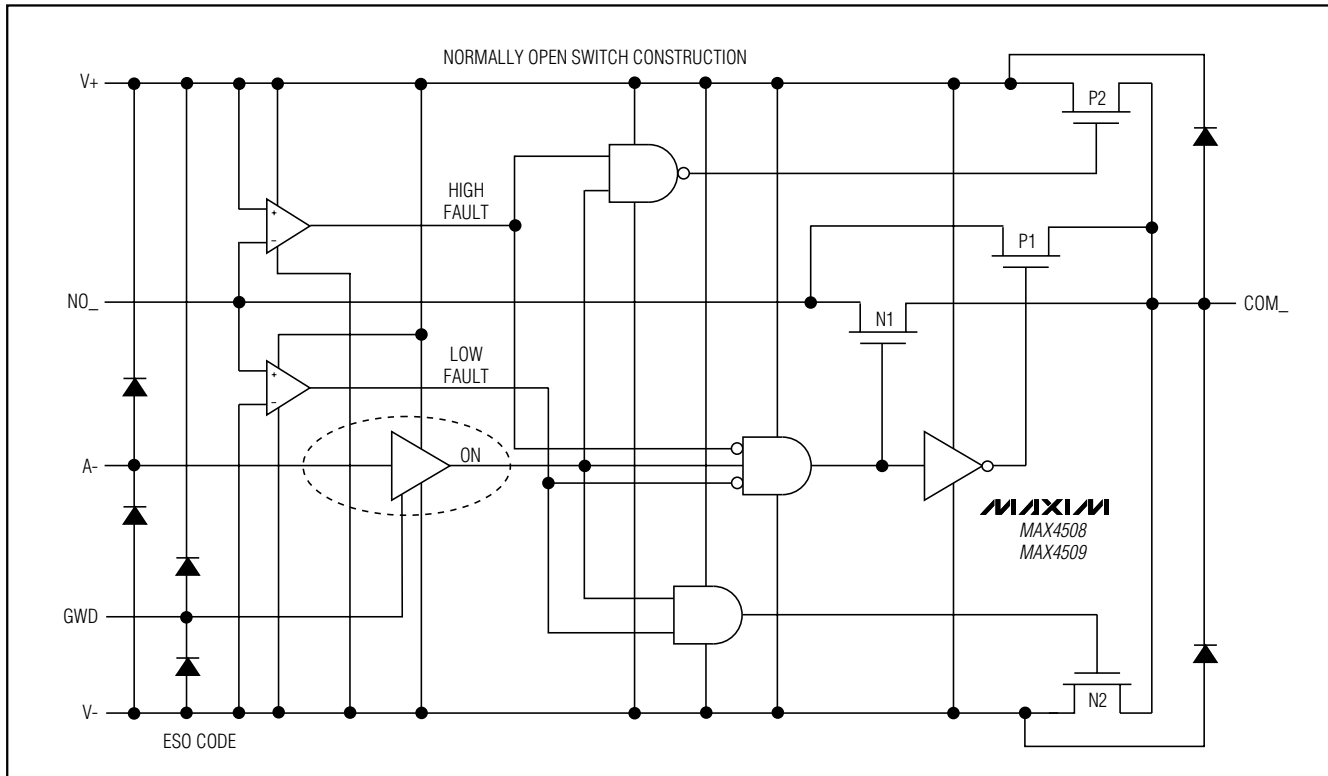

Figure 1. Functional Diagram
Figure 1 shows the internal construction, with the analog signal paths shown in bold. A single normally open (NO) switch is shown. The analog switch is formed by the parallel combination of N-channel FET N1 and P-channel FET P1, which are driven on and off simultaneously, according to the input fault condition and the logic level state.
Two comparators continuously compare the voltage on the NO_ pin with V+ and V- supply voltages. When the signal on NO_ is between V+ and V-, the multiplexer behaves normally, with FETs N1 and P1 turning on and off in response to A_ signals (Figure 1). The parallel
When the signal on NO₋ exceeds V₊ by about 150mV, the positive fault comparator output goes high, turning off FETs N1 and P1 (Figure 1). This makes the NO₋ pin high impedance, regardless of the switch state. If the switch state is "off," all FETs turn off, and both NO₋ and COM₋ are high impedance. If the switch state is "on," FET P2 turns on, clamping COM₋ to V₊.
When the signal on NO₋ goes about 150mV below V₋, the negative fault comparator output goes high, turning off FETs N1 and P1 (Figure 1). This makes the NO₋ pin high impedance, regardless of the switch state. If the switch state is "off," all FETs turn off, and both NO₋ and COM₋ are high impedance. If the switch state is "on," FET N2 turns on, clamping COM₋ to V₋.
FETs N2 and P2 can source about ±10mA from V₊ or V₋ to the COM₋ pin in the fault condition (Figure 1). Ensure that if the COM₋ pin is connected to a low-impedance load, the absolute maximum current rating of 30mA is never exceeded, either in normal or fault conditions.